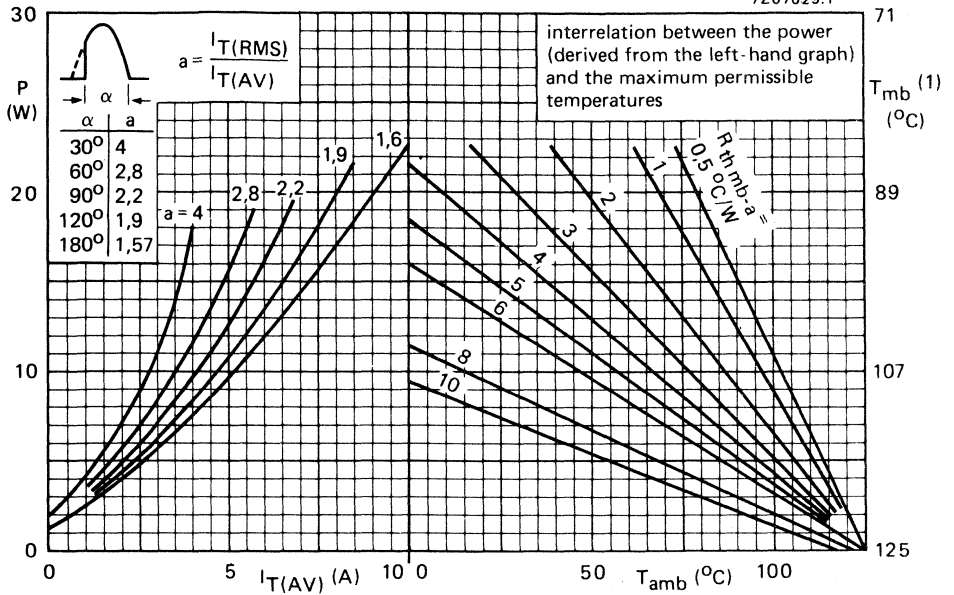

Fig. 3 (1) T_{mb} -scale is for comparison purposes only and is correct only for $R_{th mb-a} \leq 6 \text{ }^\circ\text{C/W}$.
* To ensure thermal stability: $R_{th\ j-a} < 4$ °C/W (d.c. blocking) or < 8 °C/W (a.c.). For smaller heatsinks $T_{j\ max}$ should be derated. For a.c. see Fig. 3.